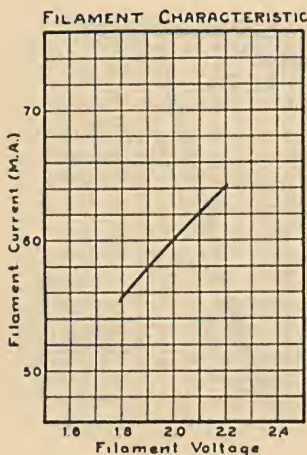

Fig. 12
**Filament Characteristics**—Fig. 12 shows the change of filament current with various filament voltages.